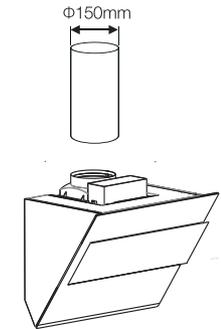

Fig.8
- Fit the flexible flue to the duct transition(Fig.8). Use fixingtapes to secure flexible pipe to the duct transition.